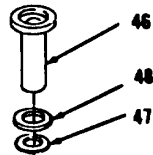

Figure 8-25.
- 16. Remove plug (42), preformed packing (43), springs (44 and 45) and items 46 thru 48 as an assembly (Figure 8-25). Discard preformed packing (43).
- 17. Remove washer (47) and shims (48) from stop (46, Figure 8-25).